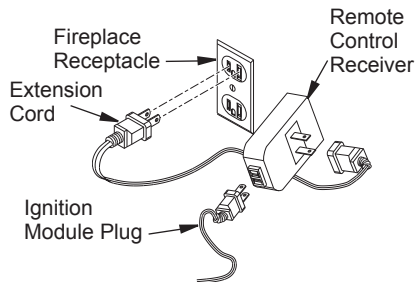

Figure 47 - Connecting WRC Remote Control Electronic
2. The WRC model receiver does not require a battery. The receiver can be installed by first plugging the short extension cord into the fireplace receptacle. Finally plug the ignition module plug into the receiver unit (see Figure 47).